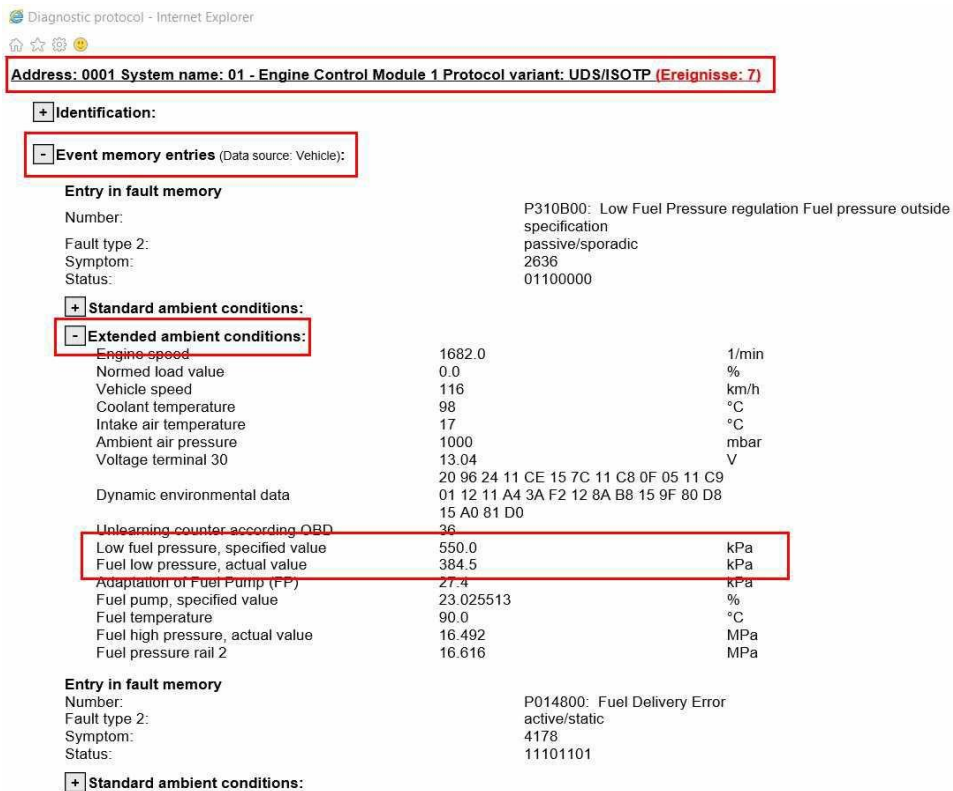

Figure 1
2) Check "**Low fuel pressure, specified value**" and "**Fuel low pressure, actual value**" within the fault memory, refer to ECU "**01 – Engine Control Module 1**" - From "**Extended ambient conditions**" note the values of the "**Low fuel pressure, specified value**" and "**Fuel low pressure, actual value**" – Figure 1.